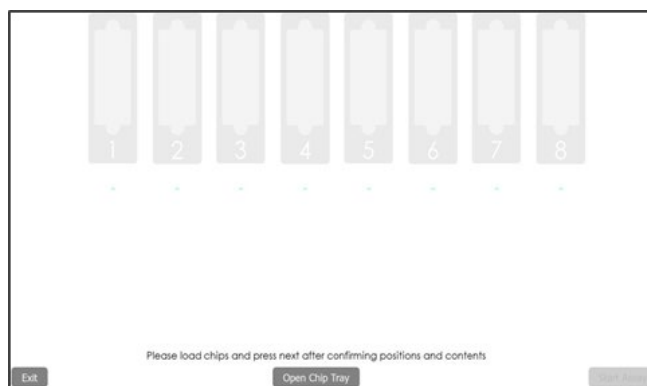

Figure 188 - Chip loading screen
1. Once IsoLight display matches Figure 188, follow the appropriate Sample Preparation Protocol to prepare and load the chips with samples. **Apply provided cover tape to top of consumable.** Ensure even application with provided tape application tool.